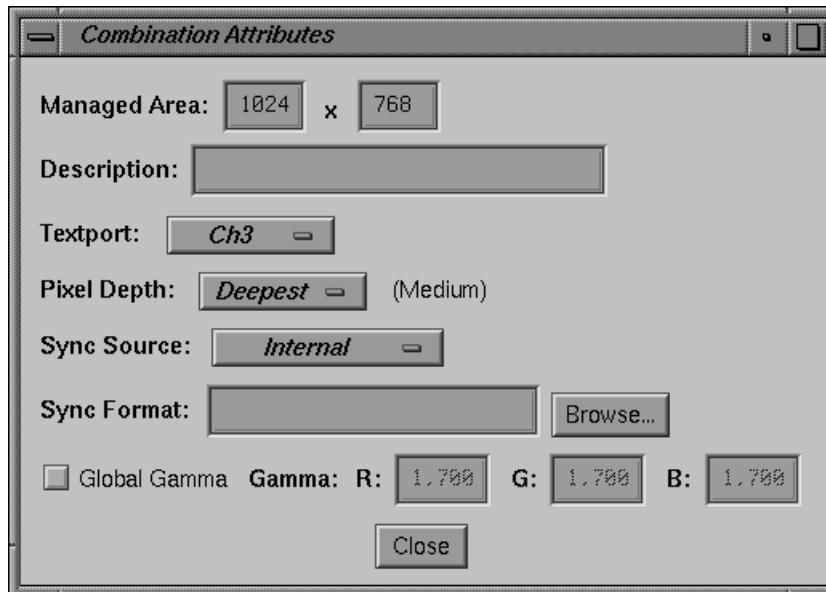

Figure 3-2 Example Combination Attributes Window
4. Create a combination that uses the DG channels as appropriate to the new configuration. Set the sync source to Internal (see Figure 3-2). Note that if the sync comes from another pipe, the source should be set to external.